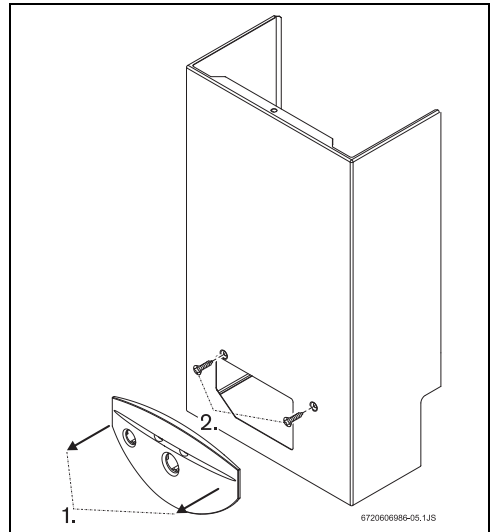

Fig. 14 Remove front cover
- ▶ Remove the mirror from the appliance by pushing it lightly towards (Fig. 14, [1]).
- ▶ Loosen the two screws (Fig. 14, [2]).